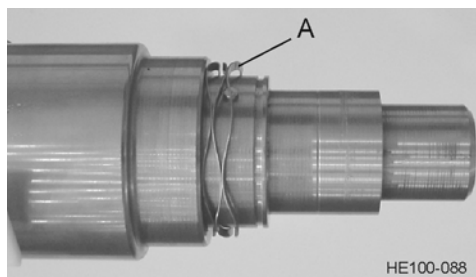
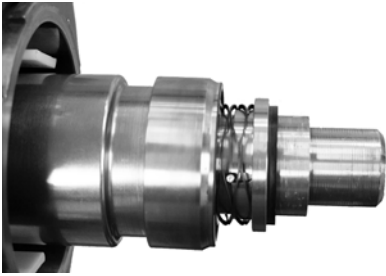

Figure 67 - Install Wavy Spring
Figure 70 - Double Mechanical Seal Installed
1. The primary seal body is held in place on the mutator shaft by two seal drive pins. Each one should be $5/32$ inches (± 0.015 ") above the stub shaft surface. The secondary seal body is held in place by one seal drive pin. It should be $3/32$ inch (± 0.015 ") above the stub shaft surface. It is extremely important that these dimensions be maintained. If the pins are too high, the seal will jam; if they are too low, the body will rotate. See Figure 67 and Figure 70.
2. Place wavy washer spring (See Figure 67, Item A) on shaft.
6. Assemble Secondary Seal Wavy Washer on shaft, if required (See Figure 70).